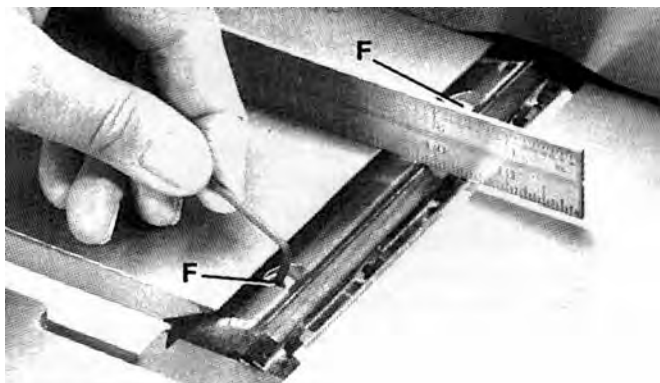

FIGURE 33
5. If the knife is high or low at either end, slightly turn the four screws (D) Fig. 32, in the knife locking bar clockwise to loosen using the wrench (E) supplied. Then adjust the height of the knife by turning the knife raising screws (F) Fig. 33, counterclockwise to lower and clockwise to raise the knife. NOTE: If the knife is to be lowered it will be necessary to carefully push down on the knife after screws (F) have been turned.